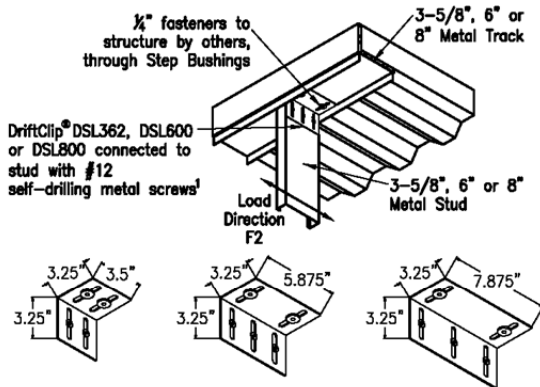

Figure 3 – DriftClip® DSL362/400, DSL600 and DSL800
**3.1.4 DriftClip® DSL:** DriftClip® DSL362/400, 600 and 800 are L-shaped angles that connect  $3\frac{5}{8}$ - or 4-, 6- and 8-inch-deep (92 or 102, 152, and 203 mm) exterior curtain wall steel studs, respectively, at head of wall to the building's structural frame while allowing for a maximum of 2 inches (51 mm) of vertical, and horizontal movement between exterior wall elements and the primary structure. The minimum base-metal thickness of the clips is 0.0966 inch (2.5 mm). The two legs of the DriftClip® DSL362/400, 600 and 800 connectors are equal in length, and each has two or three slots perpendicular to the heel of the angle, each  $\frac{3}{8}$  inch (9.5 mm) wide by  $2\frac{3}{8}$  inches (60 mm) long. The leg which is fastened to the curtain wall stud has bushings designed for No. 12 self-drilling/self-tapping steel screws installed in the center of each slot. The other leg, which is fastened to the structure, has bushings designed for  $\frac{1}{4}$ -inch-diameter (6.4 mm) fasteners installed in the centers of the slots. Refer to Figure 3 for overall dimensions of each DriftClip® DSL connector and a typical installation detail.